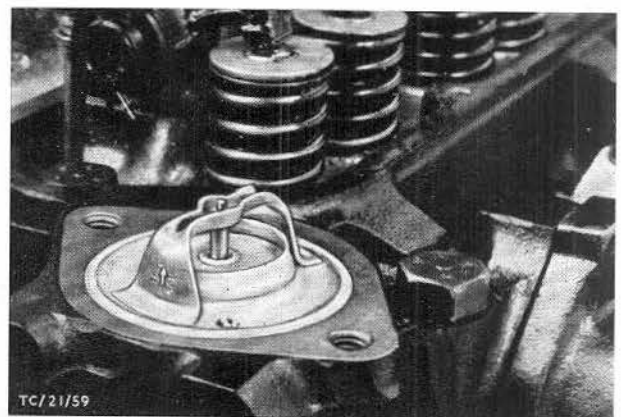

Fig. 66. Thermostat installed.
6. Detach cylinder head water elbow (2 bolts) and remove thermostat, Fig. 66. Disconnect exhaust pipe from exhaust manifold (2 nuts).